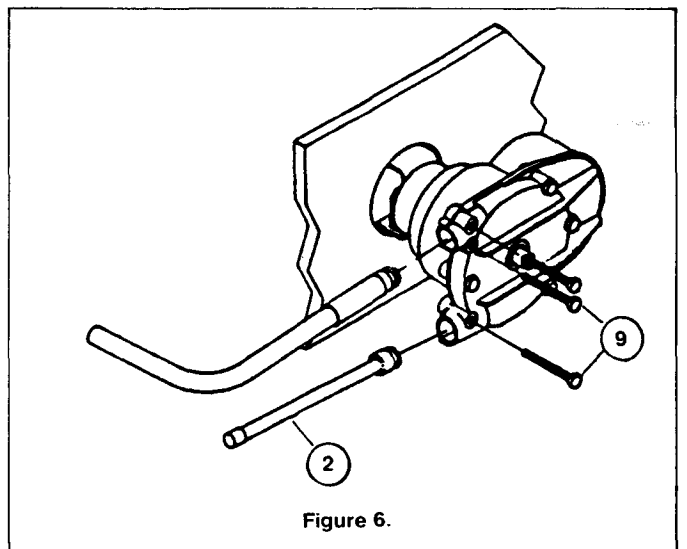

Figure 6.
**STEP 2.** Feed cable end into the **UPPER** Helm entry spigot until it contacts the internal gear, ~~then turn the steering wheel to draw the cable fully into the helm,~~ (see figure 6). Continue turning the steering wheel until the end fitting of the cable is fully inserted into the entry spigot.
**STEP 3.** Insert two bolts (item 9) into the helm and tighten fully, making sure that the bolts are in the retaining groove of the cable fitting. See figure 6.
**STEP 4.** Feed the Spent Travel Tube (item 2) over the exposed cable end and insert bolt (item 9) into the helm, tighten fully. See Figure 6.